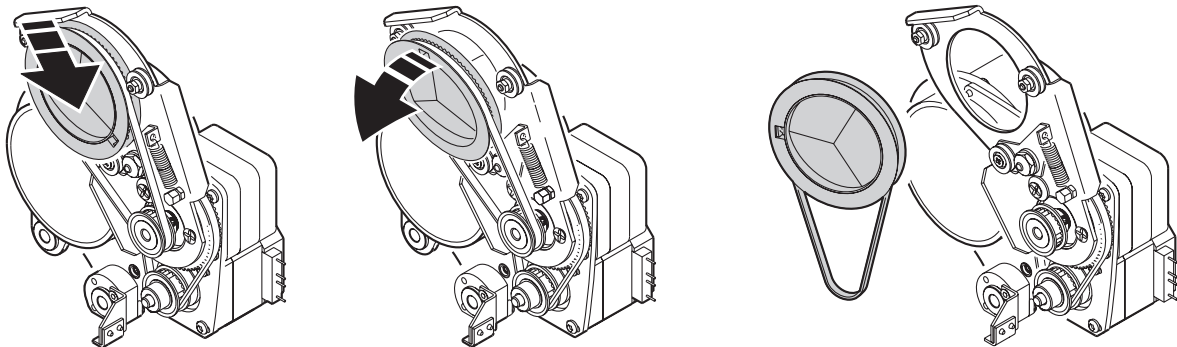

Figure 14: Removing the prism
3. See Figure 14. The prism wheel is held between three pulleys. The lower pulley is spring-loaded. Push the prism down until it is released from the upper two pulleys, then lift it forwards out of the module.